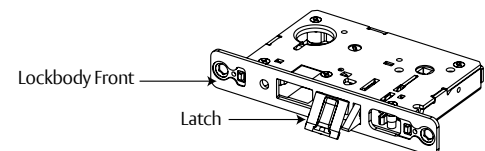

Figure 14
3. Rotate latch 180°. Latch will re-enter lockbody. (Figure 14)